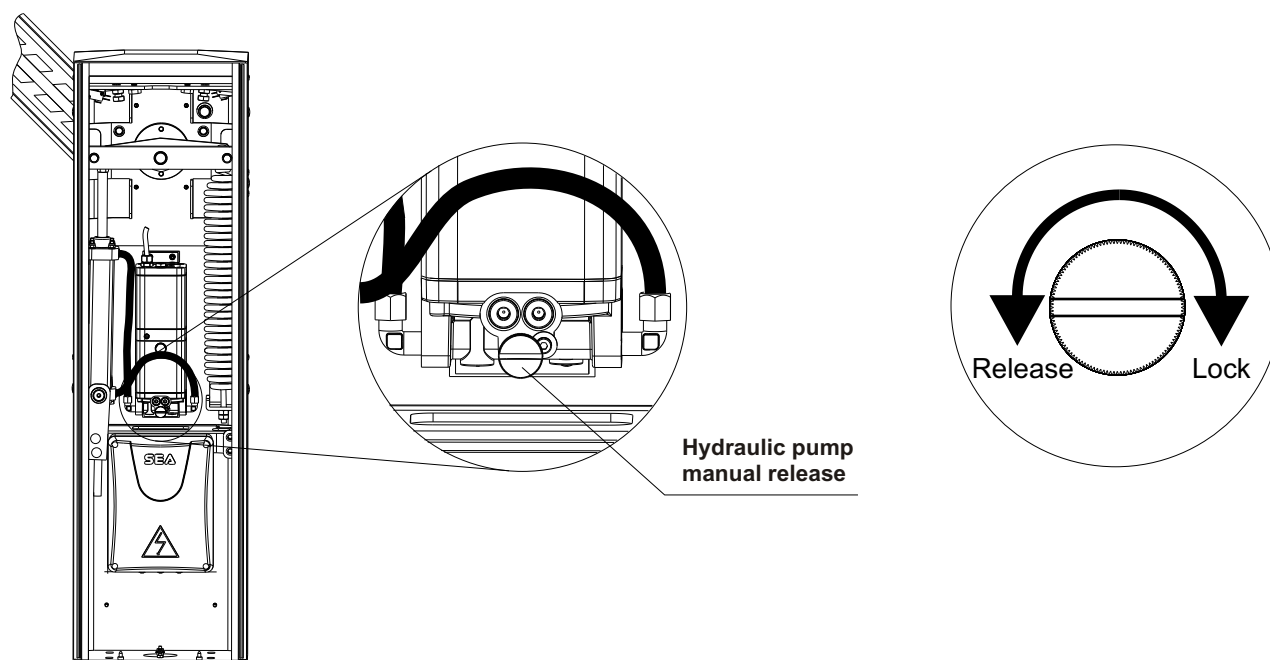

Fig.14
N.B.: Before executing this operation release the motor-reducer as shown in Fig. 14.